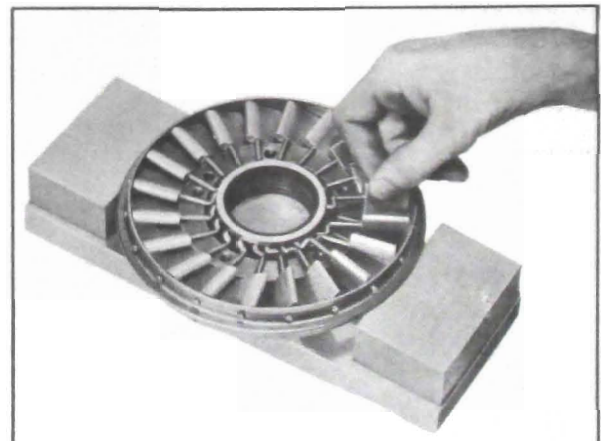

Figure 5-47—Stator Blades Being Removed
4. Tilt three or four blades toward the low angle position and slide the crank pin ends clockwise around the stator piston groove. The next blade and all succeeding blades will then have enough clearance to be removed. See Figure 5-47.